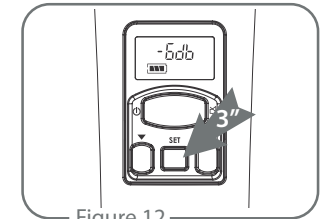

Figure 12
- Press "Set" button for 3 seconds to enter setting window. (Figure 12)